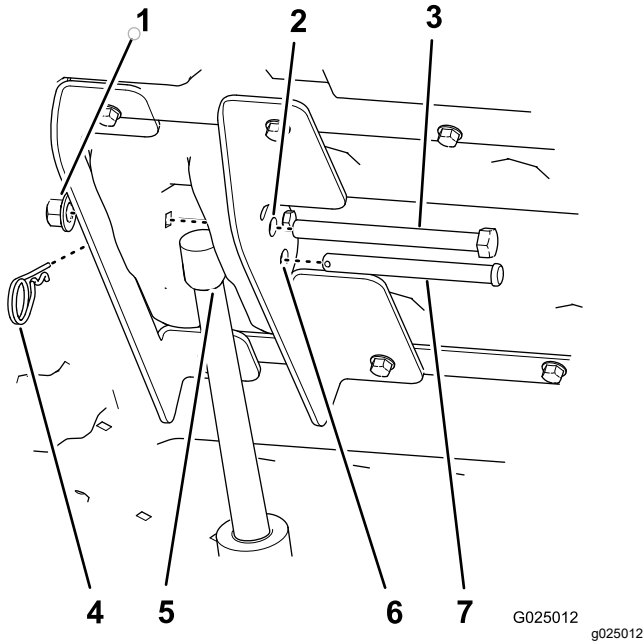

Figure 11
7. Press the up paddle the bed-lift switch to extend the rod of the lift actuator rod until the hole in the rod is aligns with the holes in the inboard and outboard-lift brackets (Figure 11).
8. Secure the lift-actuator rod to the lift brackets with the clevis pin (3-1/2 inches) and hairpin (Figure 11).
10. Align the hex-head bolt (1/2 x 5-1/2 inches) through the remaining 12.7 mm (1/2 inch) holes in the inboard and outboard-lift brackets (Figure 11) and secure it with a locknut (1/2 inch) until the nut is snug.
2. Remove the hairpin cotter and clevis pin securing the actuator rod to the inboard and outboard-lift brackets (Figure 11).
7. Lower the bed and align the lift actuator to the lift brackets (Figure 11).
8. Secure the lift actuator to the lift brackets with the clevis pin and hairpin (Figure 11).